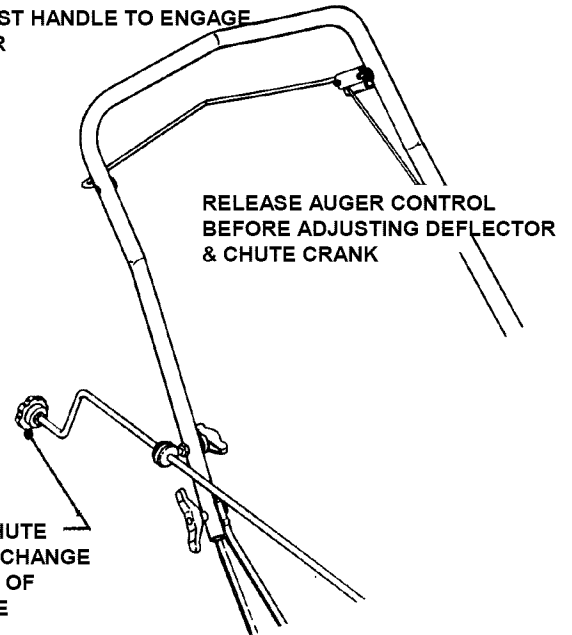

FIGURE 2.5
3. Rotate chute crank to position the discharge chute in desired direction. See Figure 2.5.
1. Pull auger control against handle to engage auger See Figure 2.5.
1. Pull auger control against handle to engage auger. See Figure 2.5.